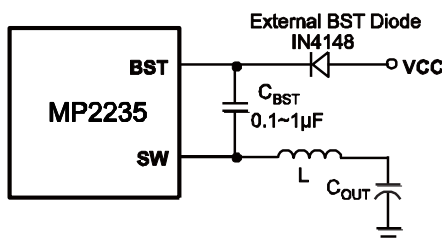

Figure 8: Optional External Bootstrap Diode to Enhance Efficiency
In these cases, add an external BST diode from the VCC pin to BST pin, as shown in Figure 8.
- 8) The recommended layout is based on the Figure 8 Typical Application circuit on the next page.